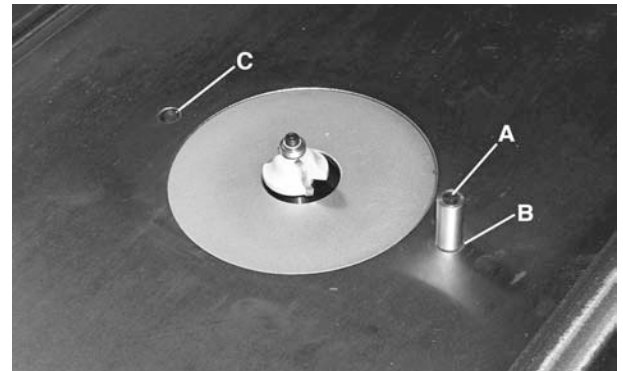

FIGURE 14
- 1) To perform free-hand routing, it is necessary to remove the entire fence assembly from the router table and use the starter pin (A) Fig.14 in one of the two holes (B or C) around the table insert.